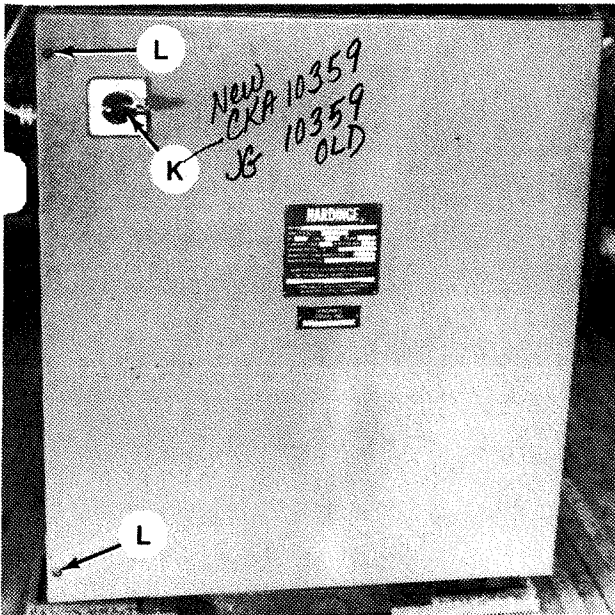

Figure 3.13 - Main Disconnect Switch
2. Turn main disconnect switch "K", Figure 3.13, OFF.